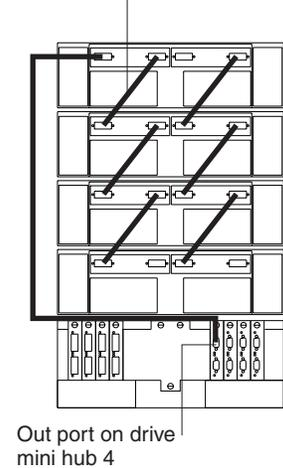

Figure 46. Connecting drive loop A to the FAST900 Storage Server
1. Connect drive loop A to the FAST900 Storage Server, as shown in Figure 46 on page 45.